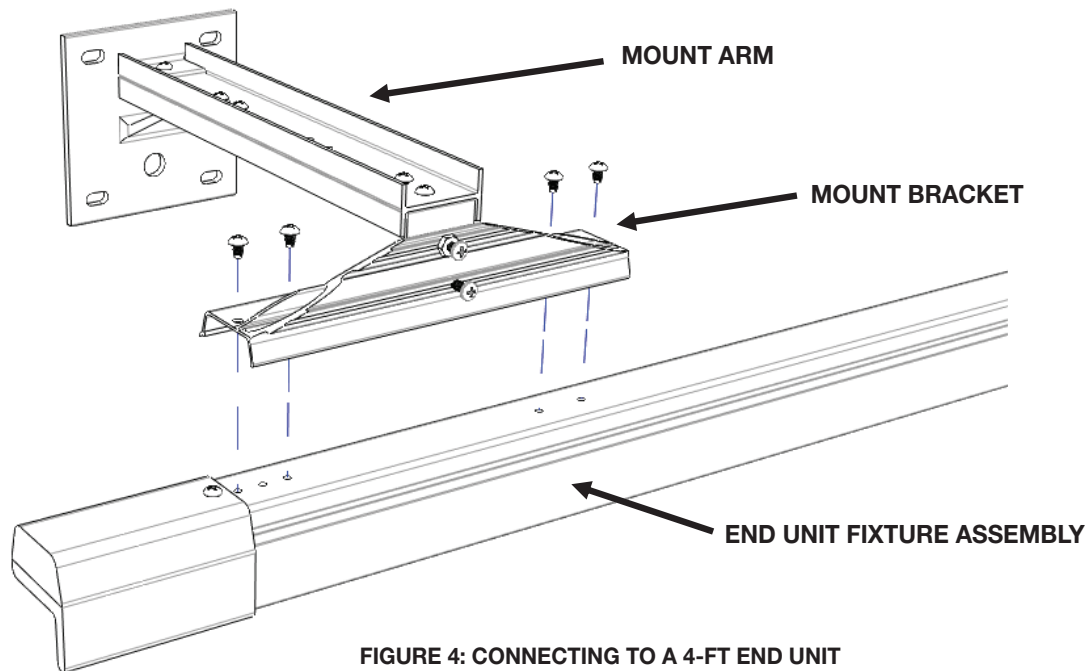

FIGURE 4: CONNECTING TO A 4-FT END UNIT
5. See Figure 4 to mount end units.